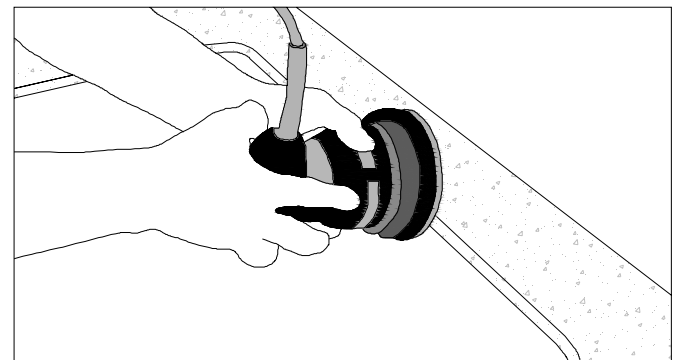

Figure 5C
- Sand the edge of the cutout with a random orbital sander. (FIG. 5C)